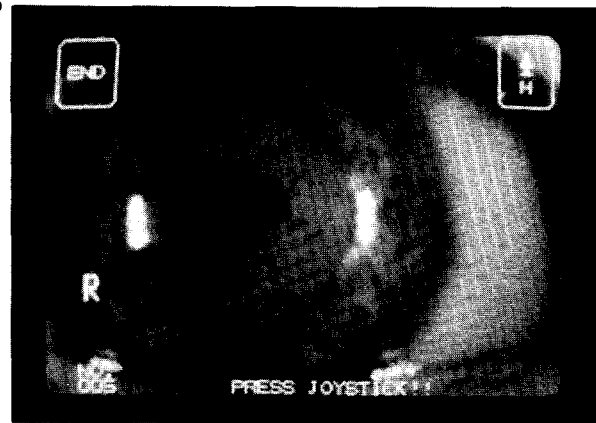

Figure 4-1 Retro Illumination after Touching [RET] key
- ① Press the [RET] key to enter the retro illumination setting mode. If foreign matter intercepts the measurement light, it can be seen as a black shadow on the screen. (Fig. 4-1)